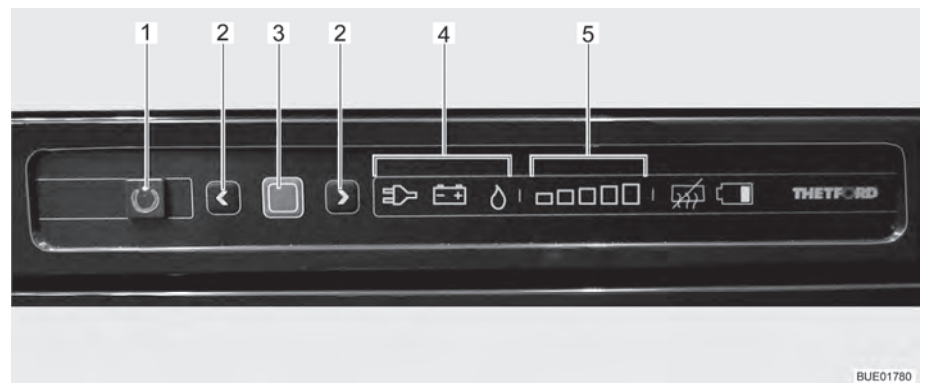

Fig. 123 Operating controls for the refrigerator
The current operating mode is indicated by an illuminated symbol (Fig. 123,4) on the operating unit.
When turned on the refrigerator automatically selects the thermostat position selected last. This position can be adjusted manually by using the arrow keys (Fig. 123,2). The illuminated bars of the cooling level indicator (Fig. 123,5) show the selected thermostat position. The refrigerating temperature for the three types of energy is set with the arrow keys. It takes a few hours till the refrigerator reaches its normal operating temperature. When changing over the operating mode the thermostat setting will be maintained. The refrigerating temperature is retained regardless of the type of energy being used.
- Press and hold the On/Off button (Fig. 123,1) for 1 second. Button (Fig. 123,1) lights up green. To save energy, after approximately 10 seconds the display is dimmed.
- Press and hold the confirmation button (Fig. 123,3) for about 2 seconds. The symbols for the operating modes (Fig. 123,4) are flashing.
- Press the arrow keys (Fig. 123,2) to change the operating mode.
- For gas operation, select the operating mode Gas using the arrow keys (Fig. 123,2). Gas supply is open. Ignition will take place automatically. A ticking sound can be heard until ignition has been completed successfully.
- Press confirmation button (Fig. 123,3).
- Press confirmation button (Fig. 123,3) again. The current cooling level is shown by the illuminated bars (Fig. 123,5).
- To change the setting, press the arrow keys (Fig. 123,2) until the desired setting is displayed.
- Press and hold the On/Off button (Fig. 123,1) for about 2 seconds. All lights go out. Refrigerator is switched off.